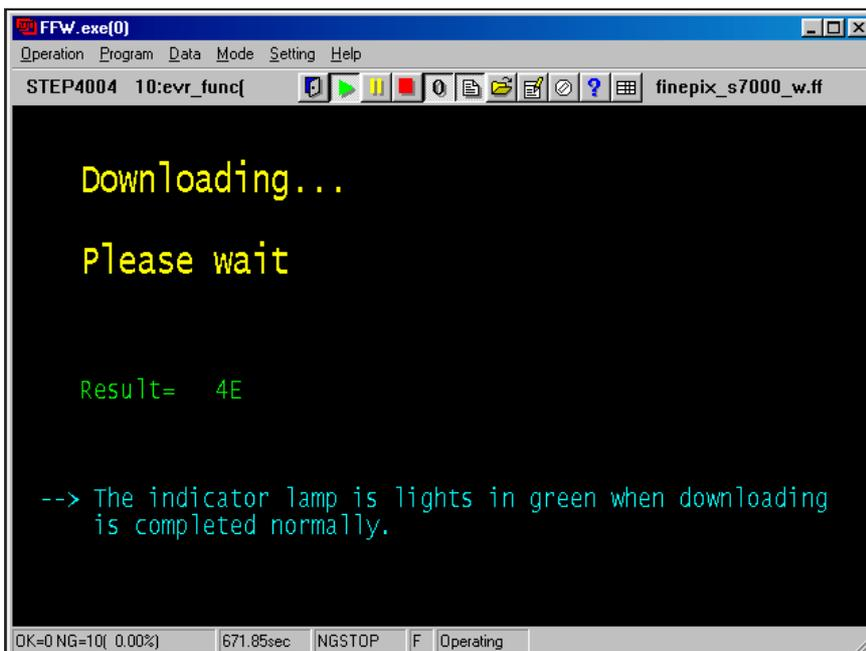

Fig.39
---> The [Downloading Screen (Fig.39)] appears.